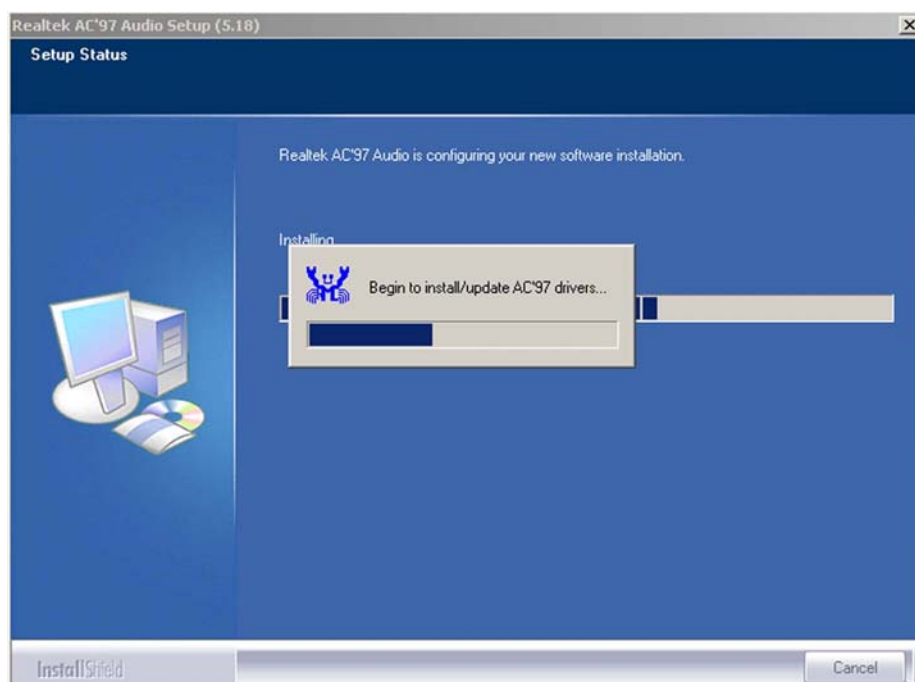

Figure 6-11: Audio Driver Installation Begins
Step 6: At this stage the clicking the “Yes” button in **Figure 6-10** appears, the installation of the driver begins. See **Figure 6-11**.